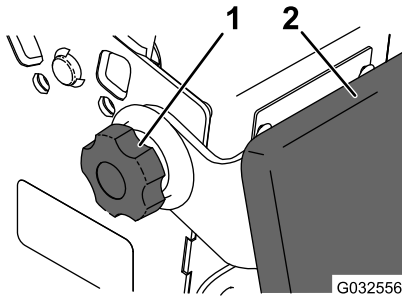

Figure 16
2. Loosen the twist knobs on each side of the machine (Figure 16).